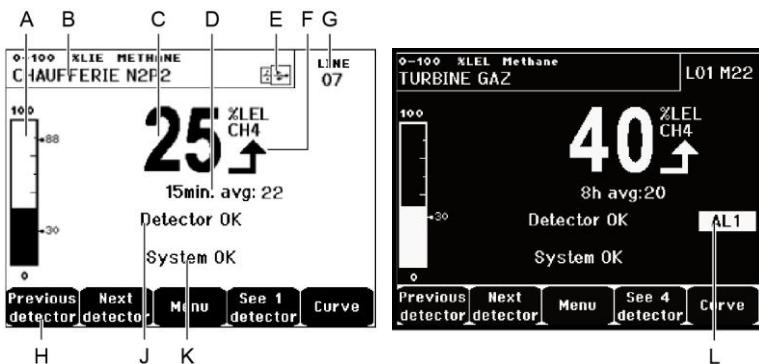

Figure 44: Example of the measurement display in normal mode and in inverse video.
- **See 1 detector:** Display in normal mode (Figure 44).
L. Zone of indication of activated alarms with blinking threshold display. The screen changes to inverse video (Figure 44, screen on the right).